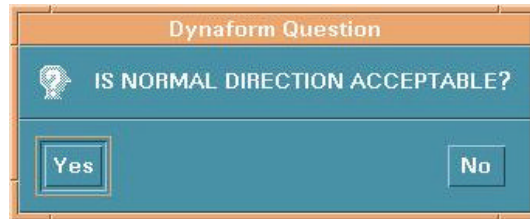

Figure 6.6.2 Plate Normal Question
- A DYNAFORM Question window appears, see Figure 6.6.2.